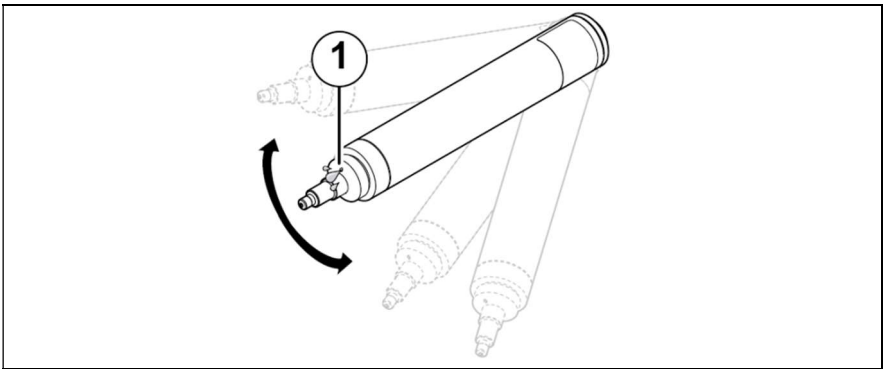

Fig. 12: Shaking the sensor body dry
- ▶ Shake the sensor body dry several times (see Fig. 12, p. 25).